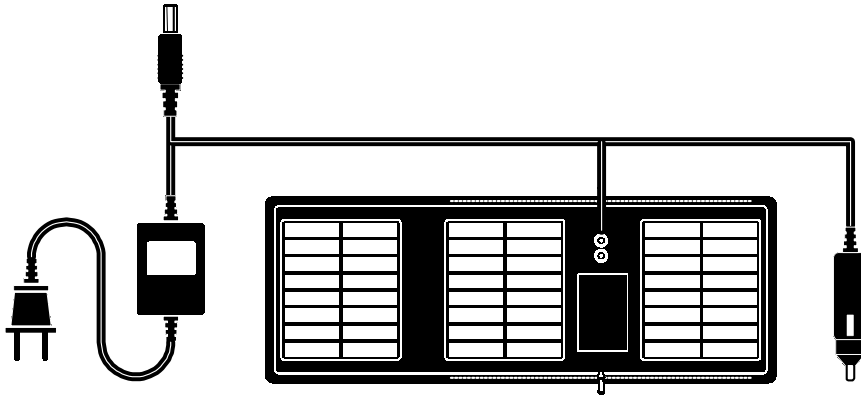

Figure 2
- To close the lid latch, close the lid and drop the front of the latch over the lid. Next lever the latch until it closes tightly. (Figure 2)
- Charging may be performed with the Brunton Solaris Solar Array, the included wall transformer, or vehicle DC power lighter attachment. (Figure 2)